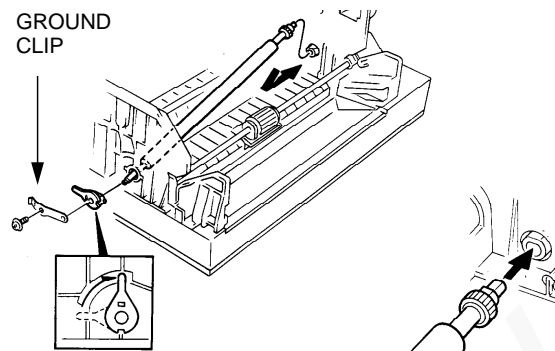

Figure 1. Rubber pinch roller
7. Remove the rubber pinch roller (figure 1).